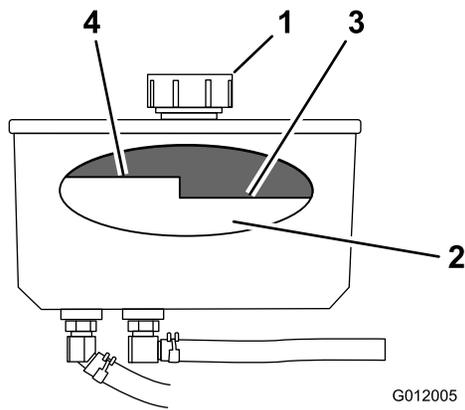

Figure 68
3. Clean the area around the cap and the filler neck of the hydraulic tank (Figure 68).
- Remove the cap from the filler neck (Figure 68).
Note: The fluid level should be below the hot level of the baffle when the fluid is warm (Figure 68).